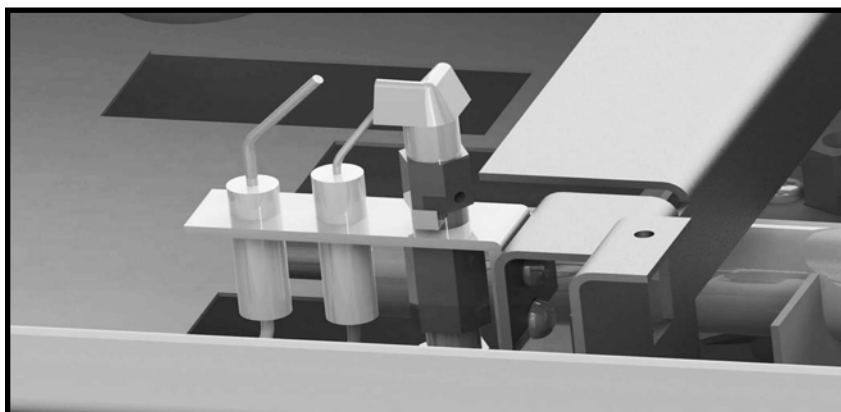

Figure 43: ngo4 Pilot positioning.
3. Attach pilot to center tray leg (Figure 43)